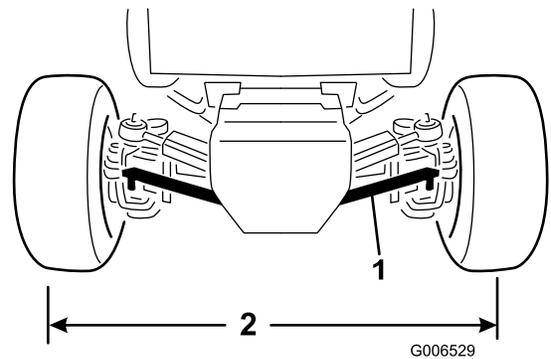

Figure 58
- Remove nuts securing one tie rod ball joint to the mounting bracket on the axle and disconnect the ball joint from the axle (Figure 58).
- Rotate the tie rod ball joint in or out until the center-to-center distance at front and back of rear wheels is the same (Figure 58).